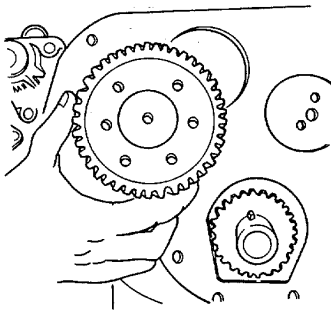

Figure 5-33. Camshaft Gear.
- (1) Remove the idler gear and hub (see d above).
- (2) Remove cylinder head cover, and rocker shaft (if not previously removed) (see paragraph 5-15).
- (3) Install the camshaft gear (3) to the camshaft ensuring that the "D" marks on the camshaft gear and camshaft hub are aligned (see Figure 5-33).
- (3) Install the camshaft gear (3, Appendix F, Figure 58) to its hub ensuring that the "D" marks are correctly aligned (see Figure 5-33). Secure with the three setscrews (1).